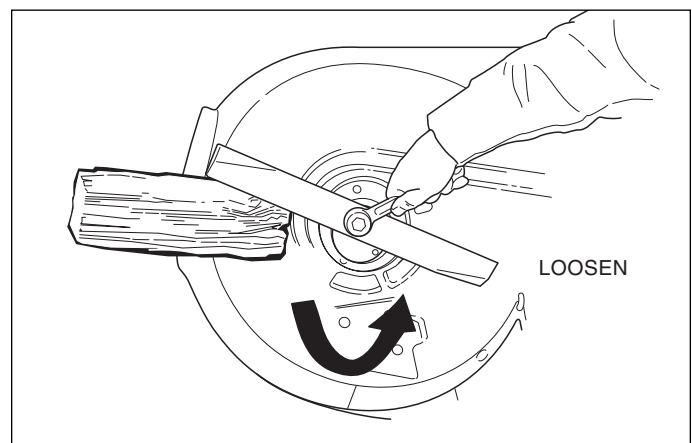

Figure 2. Blade Removal
2. See Figure 2. Remove the blades. Use a block of wood to prevent blade rotation while loosening the capscrew by turning it counterclockwise.